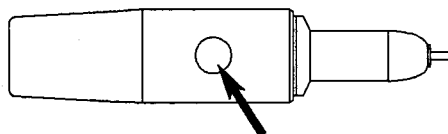

Figure 3-7. 10:1 / 100:1 Divider Adjustment Component Location
7. Adjust the trimmer component from the opening of the divider, shown in Figure 3-7, so that the data measured by the instrument is approximately 20 dB less than data **R**.